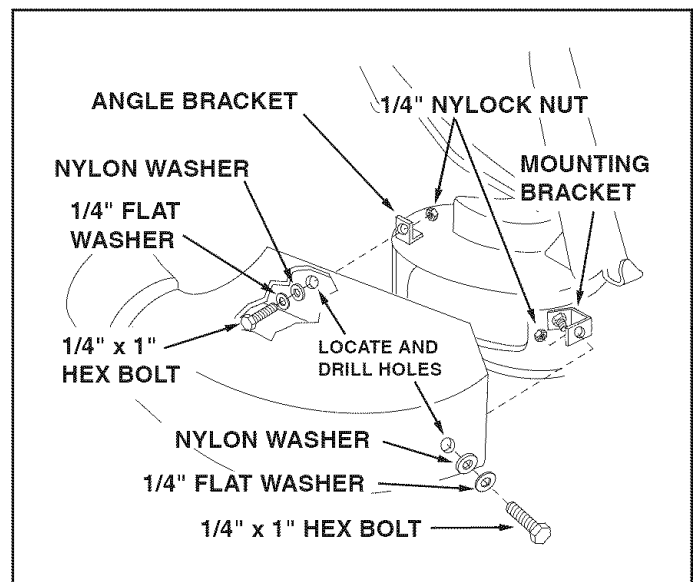

**FIGURE 28**
- Cut out two templates and place on deck adapter as shown in figure 28. Tape smaller one on top and larger one on the side and bottom. After they are in place, carefully mark around the templates, then cut out adapter to obtain correct opening.
- Bolt end of mounting strap to the 5/16" bolt on the mower deck. The other end of the strap will bolt to a hole in the deck adapter, which must be drilled. Position the adapter on the deck, then drill a 5/16" hole in the bottom of the adapter that will align with the hole in the strap. Fasten the adapter to the strap using one 1/4" x 1" hex bolt, 1/4" flat washer, nylon washer and 1/4" nylock nut. See figure 28.